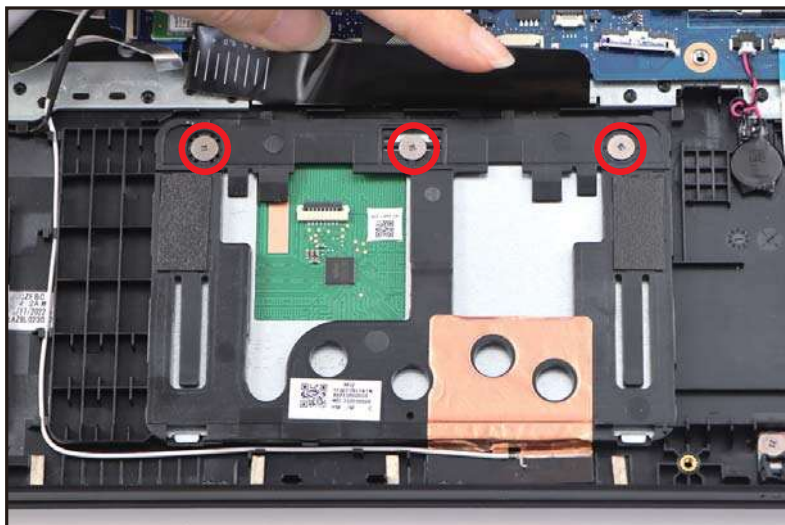

Figure 3-121. Replacing the Touchpad Module
3. Install and secure three (3) screws to the touchpad module (Figure 3-121).